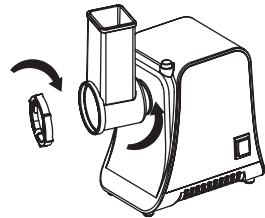

Figure 17.
5. Fasten the shredding fixing ring to keep the cone in place (fig. 17).